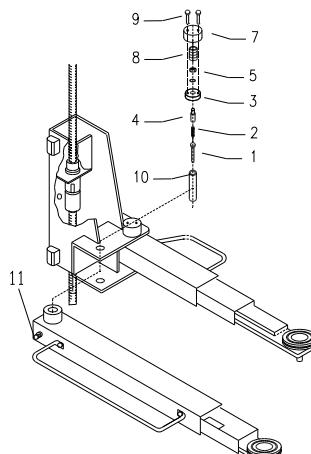
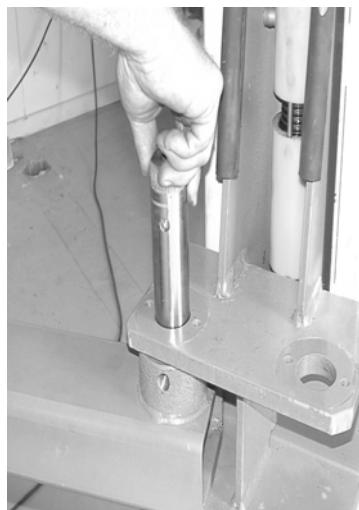

Fig.27
Fig.28
- Insert the splined dowel pin (10) in the fixing hole of the arm (Fig.27). Make sure that the hole in the dowel pin (10) is aligned with the dowel pin-fixing hole in the arm (Fig.28).
- Screw the blockbolts (11) (Fig.27) out until the carriage arms stand in their outermost position in an angle of 90 ° with the carriage (in alignment with the tubes of the ground base frame). Lock the bolts with the locking nuts (only the long arms).
- Insert the spring pressure pin (1) (Fig.27) into the hollow core of the splined dowel pin (Fig.30) after this fit the spring (2).
- Mount pin (4) to disc (3) with nut (5) and the washer (Fig.27 + Fig.31). Don't fasten the nut completely. Keep a distance of 1mm between the nut, washer and the disc. Lock the nut with locking fluid.
- Place the disc with pin and after this the spring (8) and cap (7). Now insert the screws (9) (fig.27).
- In the lowest position the arms should be able to swing because the pins (1) are inserted on the base (Fig.27).